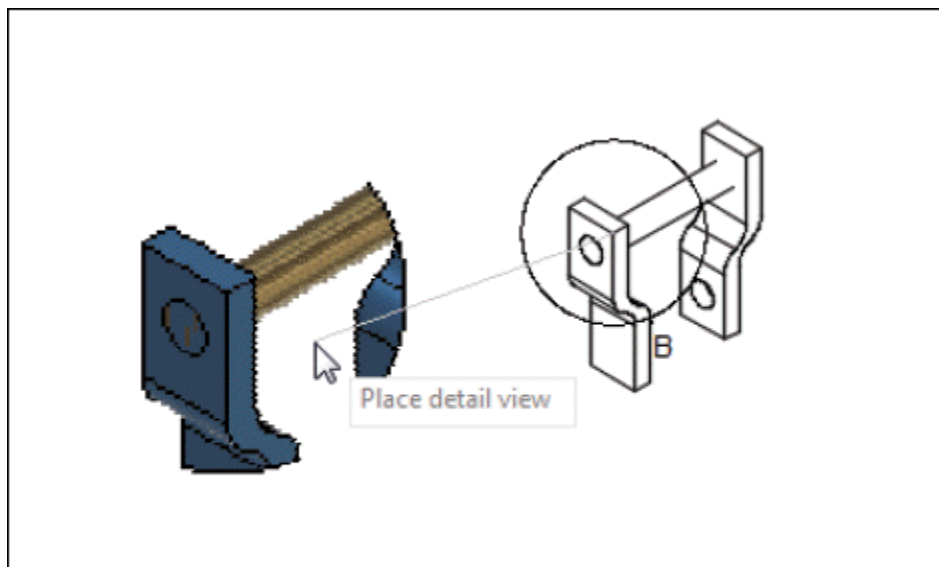

Figure-22. Placing detail view
- On creating the circular boundary, the detail view of model will be attached to the cursor; refer to Figure-22. Place it as desired.